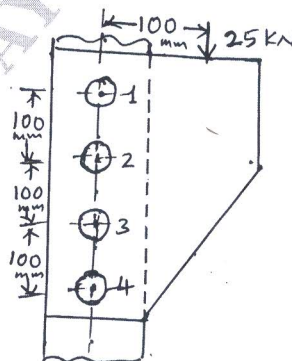

Fig.Q7(b)
b. A bracket attached to a vertical column by means of four identical rivets, is subjected to an eccentric force of 25 kN as shown in Fig.Q7(b). Determine the diameter of rivets, if the permissible shear stress is 60 N/mm².